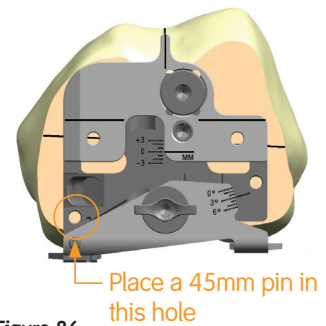

Figure 86
1. Place the appropriate (left or right) JOURNEY® II DCF Sizing Guide on the resected distal femur with the rotation set to 3° to resect implant thickness from the posterior condyles. Place a 45mm headed pin through the hole just above the medial paddle to secure the sizing guide for the remainder of its use (Figure 86).